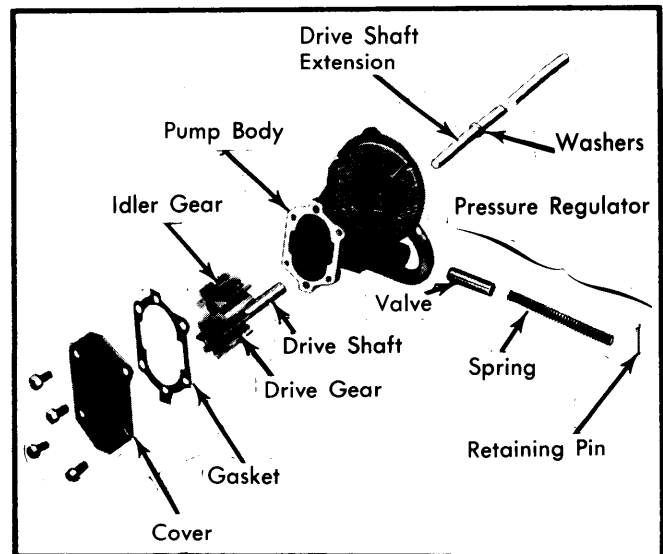

Fig. 12 Exploded View of Oil Pump Assembly
**Disassembly** — Remove oil pump drive shaft extension. Place thumb over pressure regulator valve bore and remove cotter pin, spring and pressure regulator valve. Remove oil pump cover screws, cover and gasket. Remove drive gear and idler gear from pump body. See Fig. 12.